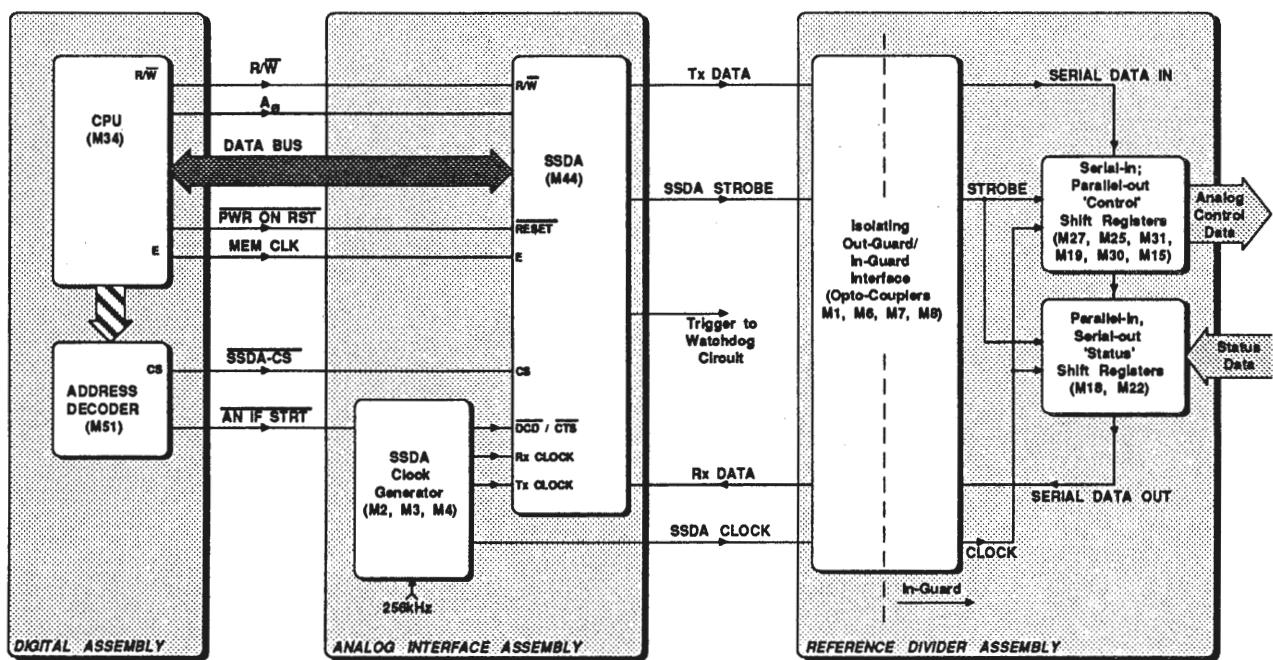

FIG. 6.14 SERIAL DATA LINK - SIMPLIFIED FUNCTIONAL BLOCK DIAGRAM
- Provides a two-way interface via a serial data link between out-guard digital processing and in-guard analog control circuitry on the reference divider assembly (*see Fig. 6.14*).
Certain selected 'Status' signals, originating in the analog assemblies, are returned to the CPU during the data transfer. Thus, the data link forms a continuous loop, as shown in *Fig.6.14*.
6.4.2 SERIAL DATA TRANSFER (*Fig. 6.14*)
6.4.2.1 The Transfer Cycle (*Fig. 6.14*)